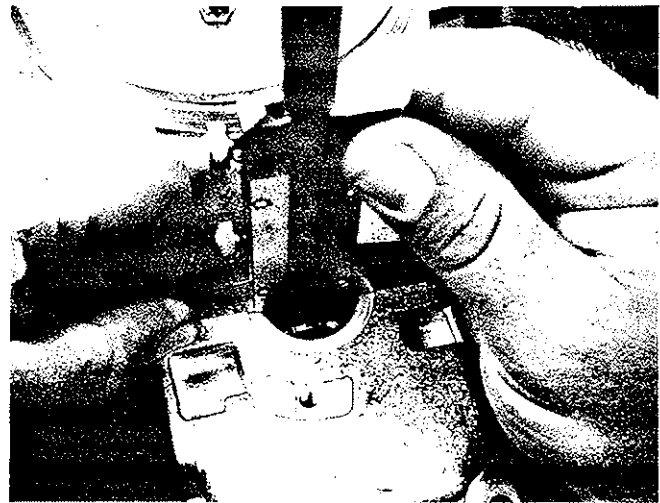

Fig. 3-11. Checking basic position of updraft air-flow sensor.
If basic position is incorrect, remove the fuel distributor and use a gauge to check the distance between the seating surface and the roller on the sensor-plate arm that lifts the plunger. See Fig. 3-11. Typical distance is  $21.2 \pm 0.1\text{mm}$  ( $0.833 \pm 0.004$  in.). If this is wrong, you may be able to correct the basic position by adjusting the mixture screw on the arm. Check and adjust the mixture (CO) after you have turned this screw. If CO cannot be brought into specification, or if you have problems with starting or driveability, you will have to adjust the plunger seal clearance as described below.